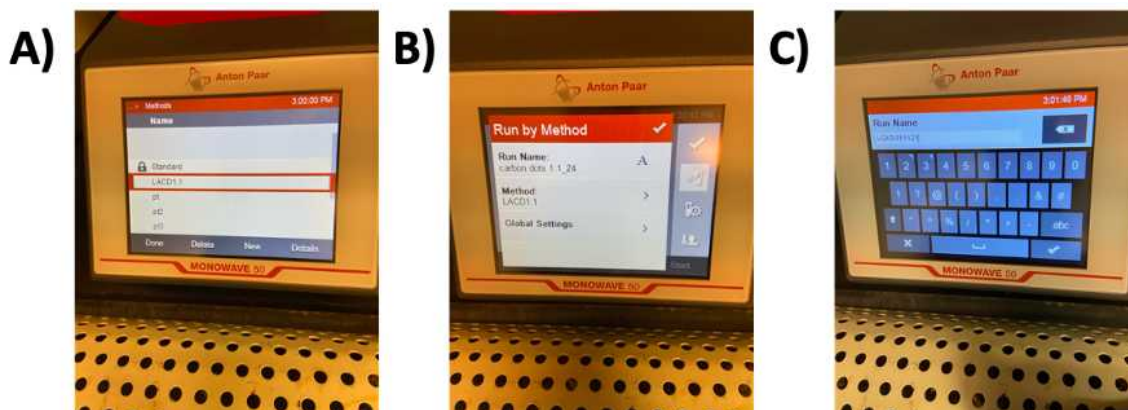

Figure 4. Photos of Monowave 50 reactor touch screen used for setup. **A)** Select LACD1.1 method. **B)** Choose “Run by Method”. **C)** Enter File name for saving data.
- Select LaCD settings in the “Run by Methods” (**Fig 4**) by pressing the Menu button
- In the text box, name the file as “LACD-today’s date” (**Fig 4**)